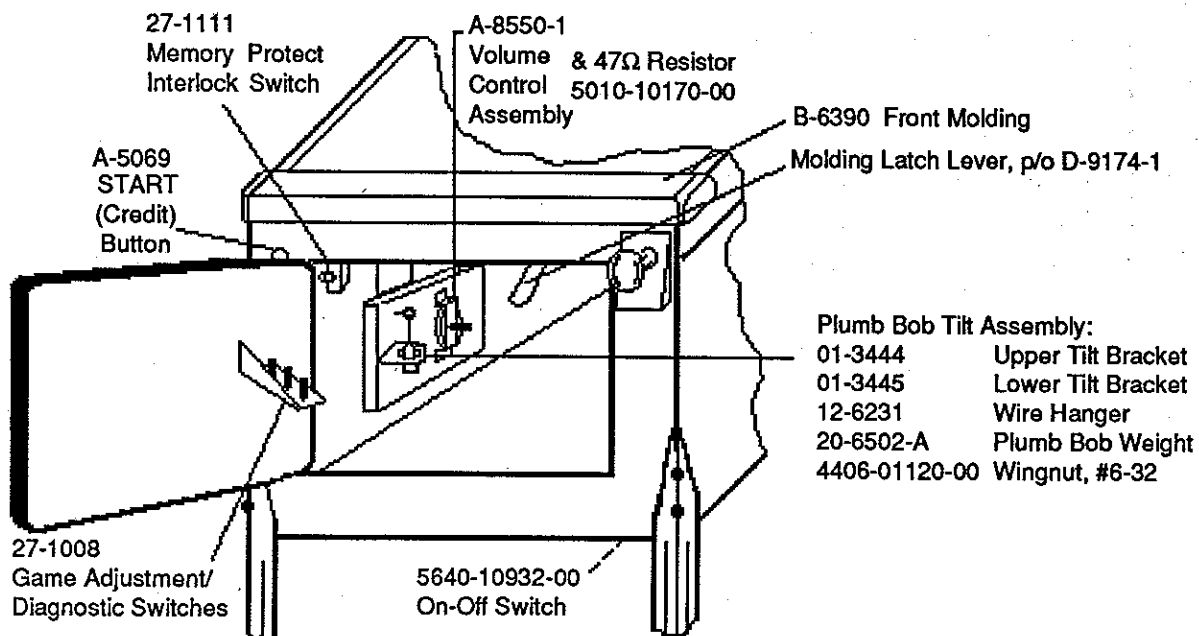

Figure 2. Pinball Game Controls Locations
Figure 2 shows the locations of the following switches, except for the last one (CPU Diagnostic switch, which is shown in the Backbox portion of Figure 1, along the left edge of the CPU Board).
7. Unlock and open the coin door. Locate the Molding Latch Lever (shown in Figure 2), and move the lever toward the left side of the game, to release the Front Molding. Lift the Front Molding off the playfield cover glass; return the Latch Lever toward the right, and close the coin door. Carefully slide the glass downward, until it clears the grooves of the Left and Right Side Moldings. Lift the glass up and away from the game, storing it carefully to avoid breakage.